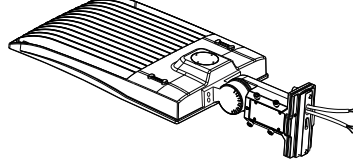

Figure 8
- Step 2: Install the bracket on the fixture, tighten it. (Figure 8)